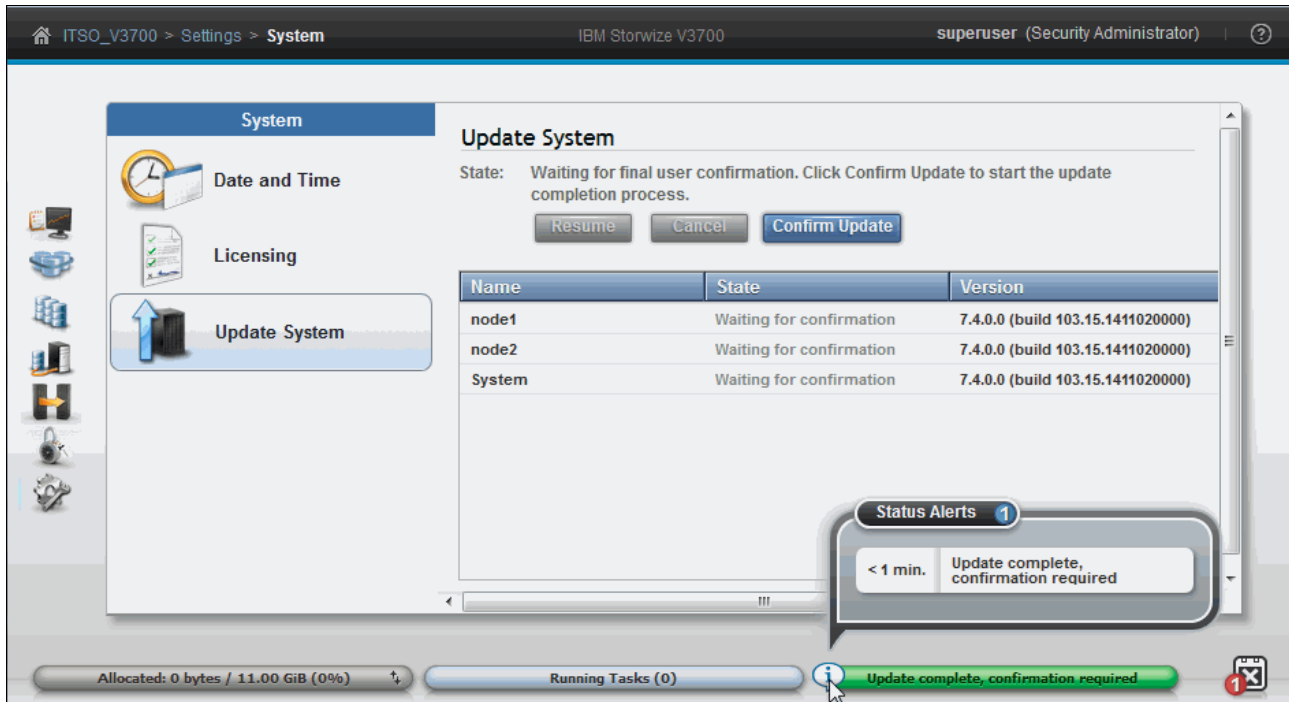

Figure 11-33 Update System: Confirm Update
12. If the canister software is updated to Storwize software V7.4 from V7.3 or lower, an additional confirmation step is included. Click **Confirm Update** to proceed as shown in Figure 11-33.